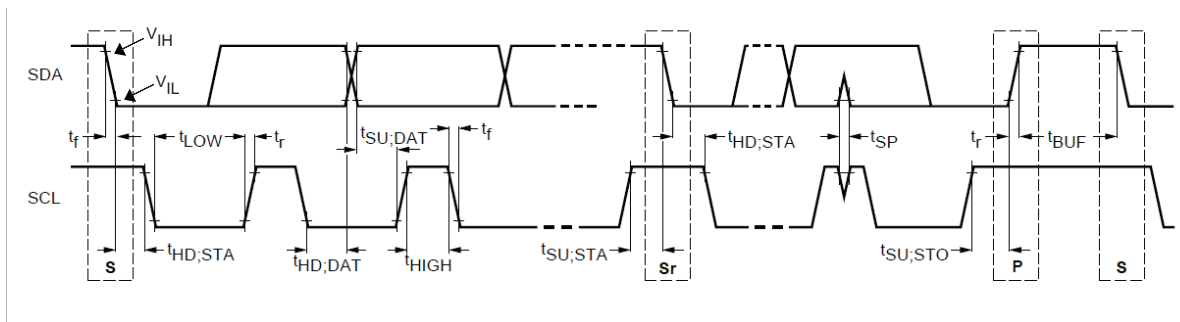

Figure 1. I2C Timing Definitions (reproduced from Phillips I2C spec Version 1.1)
(1) Specified by design. Not production tested.
(2) Refer to Figure 1 for I2C Timing Definitions
- (1) Specified by design. Not production tested.
- (2) Refer to Figure 1 below for I2C Timing Definitions
- (3) Cb = capacitance of bus line in pF